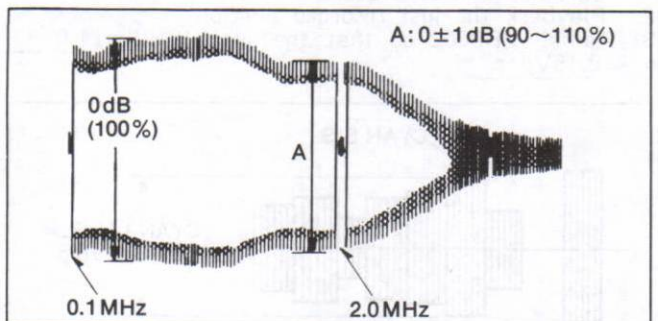

Fig.E13
5. Adjust VR3013 so that the level at 2MHz (A) becomes within specification comparing with the level at 0.1MHz as shown in Fig.E13.